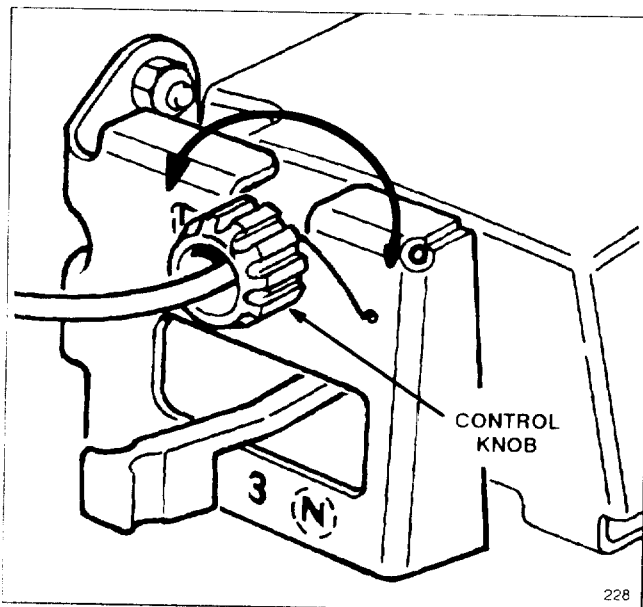

Figure 22
2. ADJUSTMENT (Fig. 22)—Rotate control knob clockwise 1/2 turn if mower does not self-propel. If mower creeps forward, rotate knob 1/2 turn counter-clockwise to loosen belt.